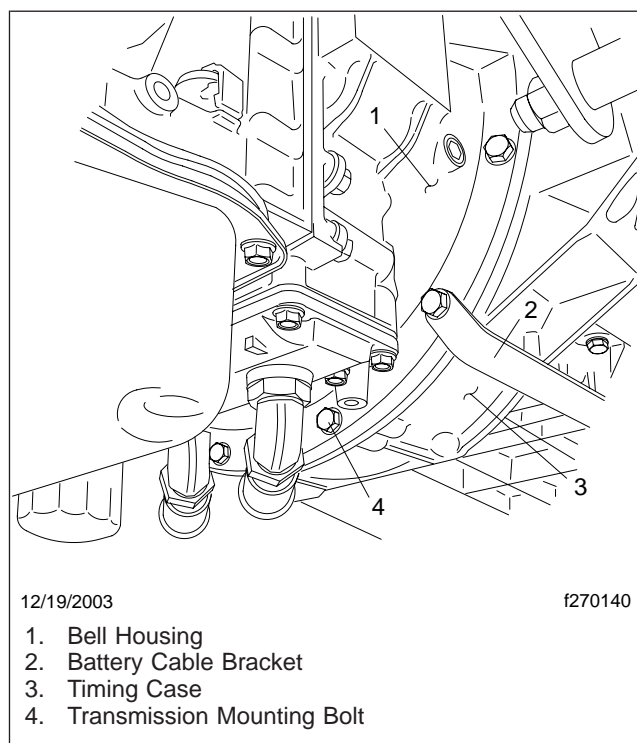

Fig. 13, Transmission Mounting Bolts
12. Remove the twelve transmission mounting bolts. See Fig. 13.
7. Tighten the M10 transmission mounting bolts 38 to 45 lbf-ft (51 to 61 N·m) in a star pattern. See Fig. 13.